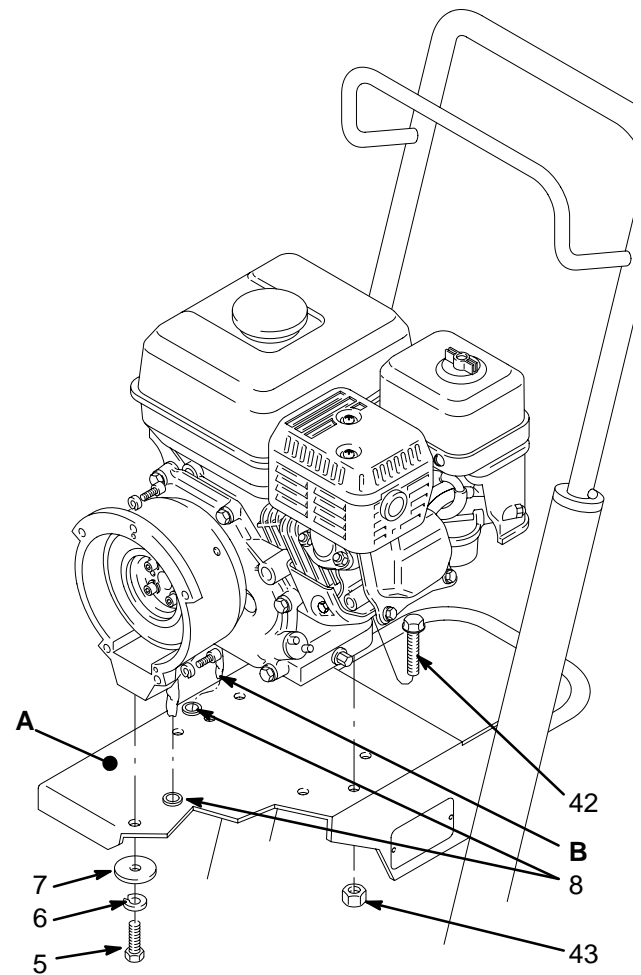

Fig. 24
- 1 Working under the mounting plate (A) of the cart, remove the screw (5), lockwasher (6) and washer (7). See Fig. 24.
- 2 Remove the engine-mounting locknuts (43) and screws (42). Disconnect the mating black, white and green wires. Pull the wires carefully through the grommets (8) before removing the engine. See Fig. 24 and 25.